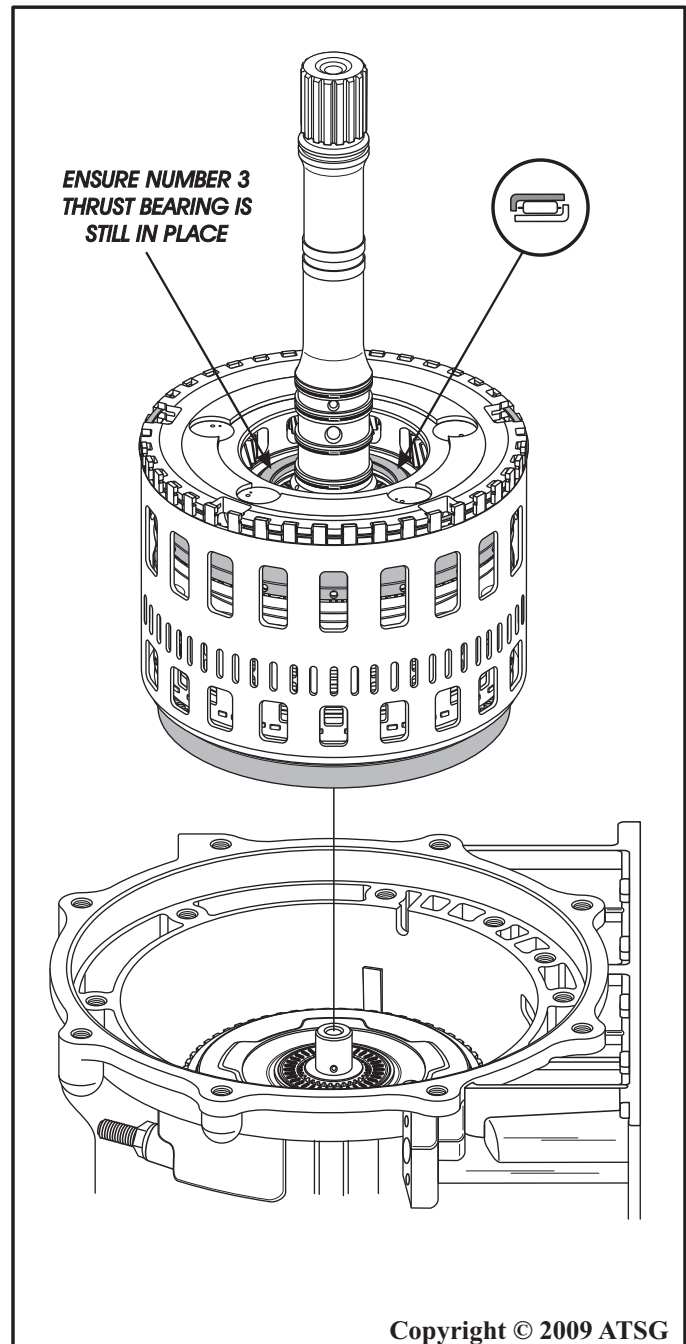

Figure 223
64. Install the pre-assembled input clutch housing assembly, as shown in Figure 223.
65. Ensure that number 3 thrust bearing is still in place in the input housing with the black side facing up, as shown in Figure 223.